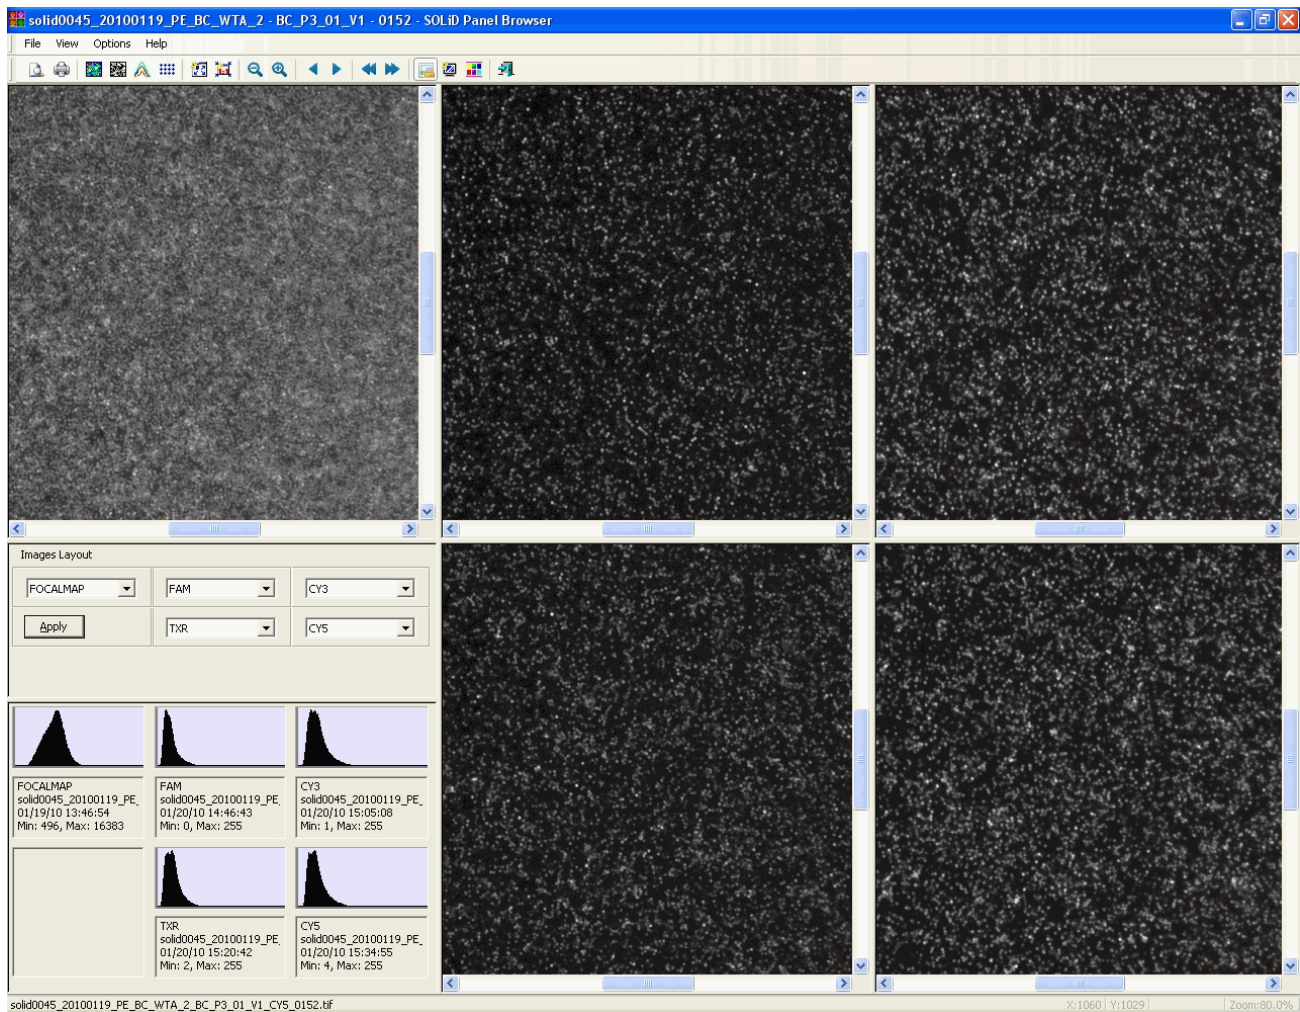

Figure 63 View the focal map and the image for each fluorescent dye signal.
3. Left-double-click any square panel on the heat map to open the panel browser window. The panel browser allows you to view the focal map and the image for each fluorescent dye signal (see Figure 63).